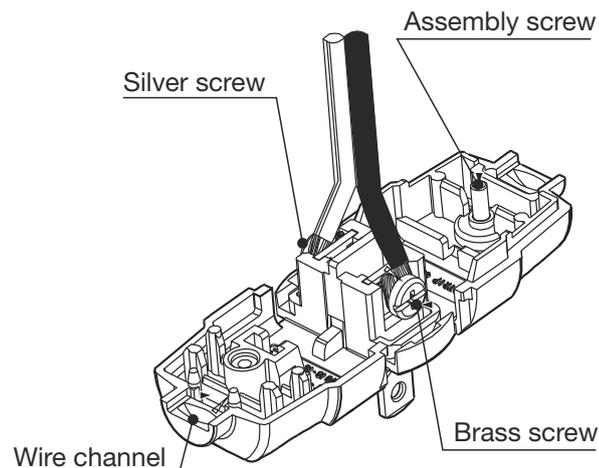
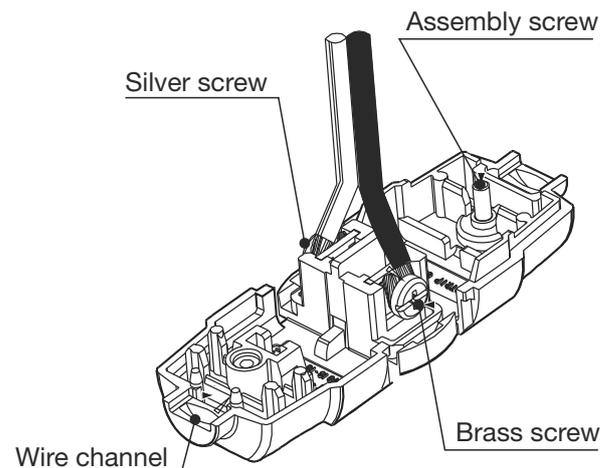

Fig. 2a
Fig. 2b
First connect ground conductor to GREEN screw, black (hot) conductor to BRASS screw and White (Neutral) conductor to SILVER screw (**Fig 2a & Fig 2b**)
3. Connect wires per wiring diagrams as follows: First connect ground conductor to GREEN screw, black (hot) conductor to BRASS screw and White (Neutral) conductor to SILVER screw (**Fig 2a & Fig 2b**)
First connect BLACK (Hot) conductor to BRASS screw and WHITE (neutral) to SILVER screw (Fig. 2a & Fig 2b).